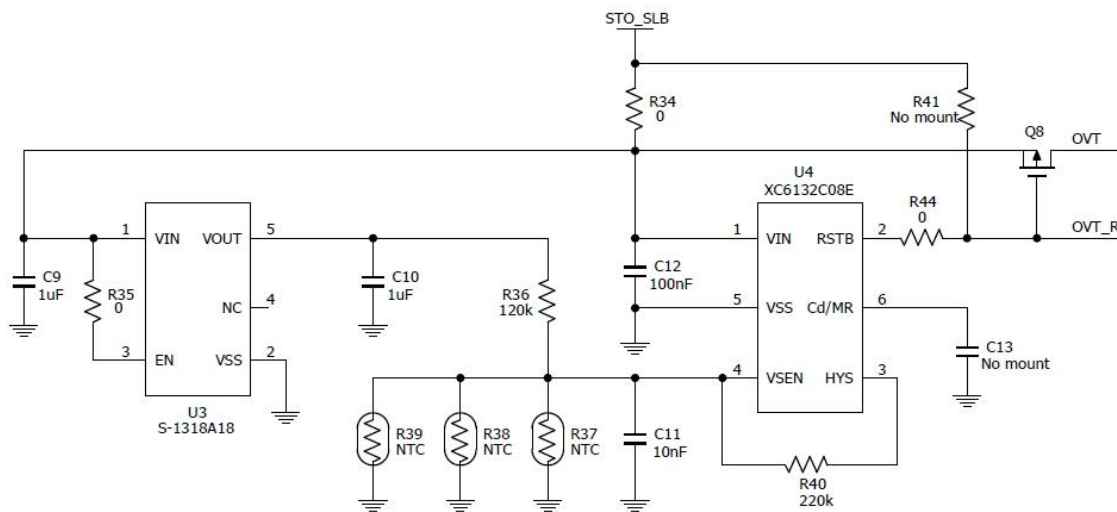

Fig. 4-3-5a Thermal protection circuit
- ◇ This board is equipped with a circuit that stops the circuit operation at high temperatures (approximately over 60 °C) to protect the SLB series, and that has the configuration shown in Fig. 4-3-5a.
- ◇ Thermal protection starts up when the VSEN terminal of U4 in Fig. 4-3-5a falls below the threshold voltage (0.8V). “OVT” in the figure disables the PMIC charge operation and DC/DC converters. Also “OVT_R” turns off the MOSFET switch of the SLB direct output to shut off the output. For the DC/DC converter circuit, note that if you set SW9 to always ON, thermal shut down function on the Fig.4-3-5a will be disabled in the circuit.